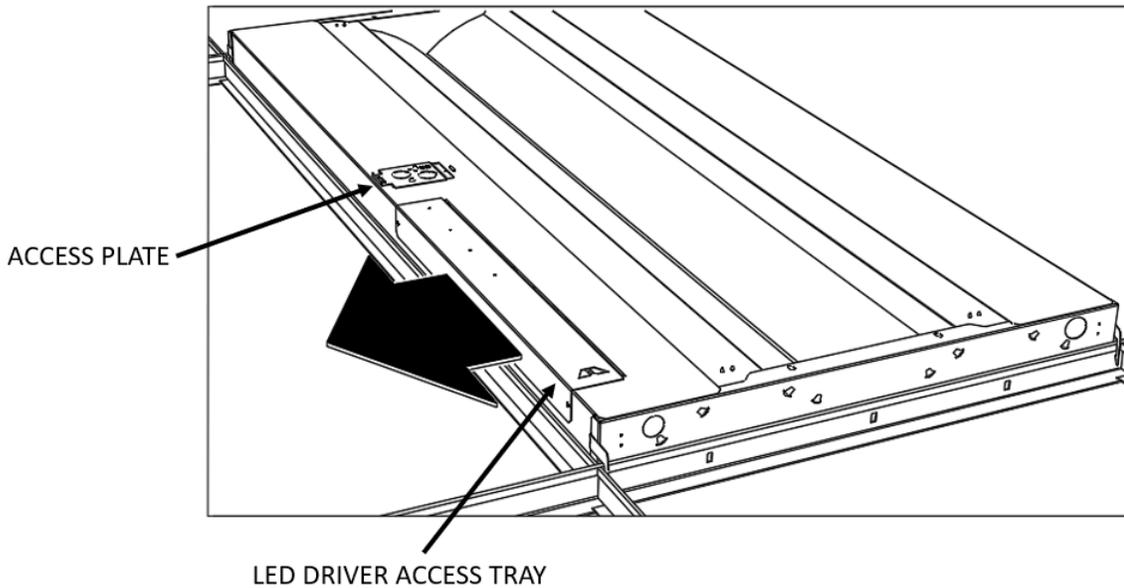

Figure 2: Driver Access
3. Using a screwdriver (not supplied), remove access plate shown in Figure 2, with grid power OFF make electrical connections from supply and properly ground as local codes dictate.
To access LED driver, remove LED DRIVER ACCESS TRAY shown in Figure 2.